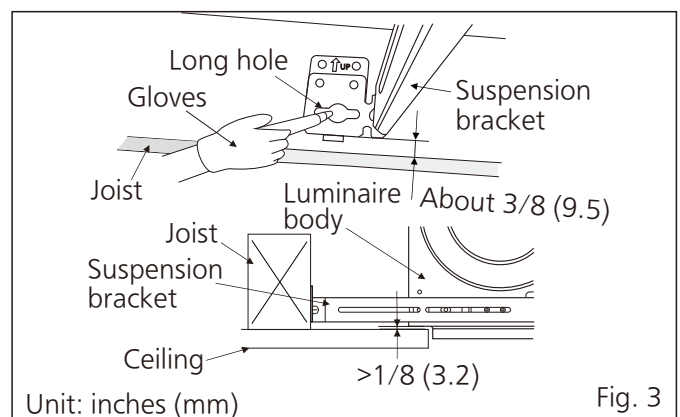

Fig. 3
3. Position the luminaire body between joists, and hold it properly. Mark the long holes of all the four suspension brackets on joists. (Fig. 3)